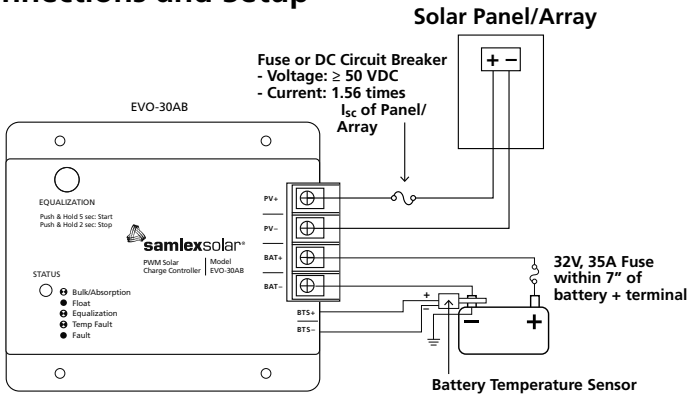

Fig. 6.2. EVO-30AB Wiring Diagram
1. The connections to the EVO-30AB terminals are shown in the drawing in Fig. 6.2. A barrier type of Terminal Strip has been provided for connecting the PV array and the battery. M-4 screws with clamping washers are used to make the connection. Use a flat or a #2 Phillips head screw driver to tighten screws. Tighten each screw to 20 inch-pounds of torque. The distance between the barriers is 9 mm and a standard Spade Type of terminal lug meant for #8 Stud and AWG #10 – AWG #12 wire may be used at the end of the wires to be connected to these terminals. **4 terminal lugs with #8 stud and #10-12 Awg cable provided as well as 4 terminal lugs with #8 stud and #8 Awg cable are provided.**
BTS consists of a temperature sensing probe that is installed on the (-) Negative battery post (Fig. 6.2). The temperature of the battery post reflects the approximate temperature of the electrolyte. A pair of 10 metres wires (marked + & -) connect the temperature sensing probe to the 2 terminals marked (+) BTS and (-) BTS.